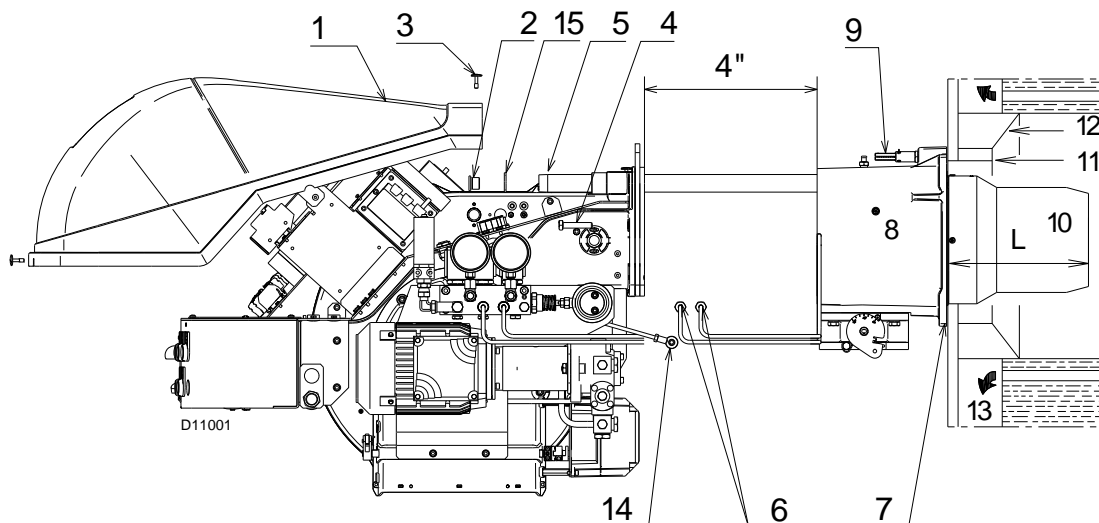
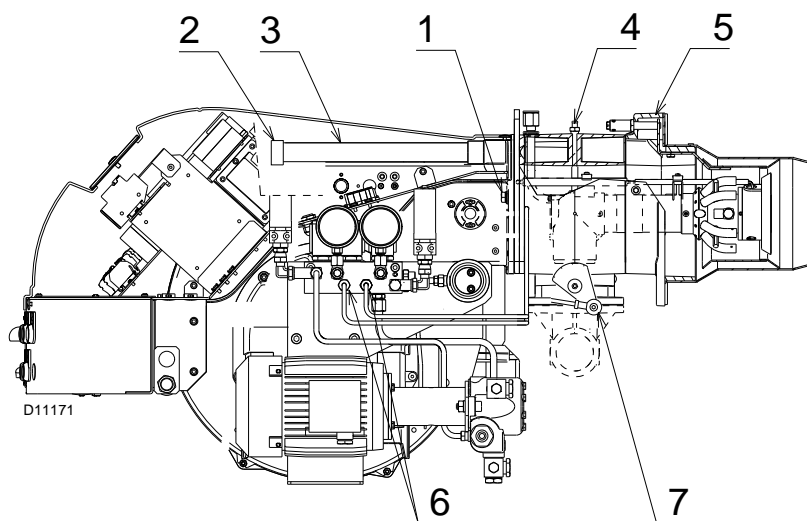

Fig. 12
Fig. 19
This protective insulation must not compromise the extraction of the blast tube. For boilers having a water-cooled front, the insulation 11)-12) (Fig. 12) is not required unless it is required by the boiler manufacturer.
Detach the combustion head from the burner, (Fig. 12):
- Refit the burner to the slide bars 3)(Fig. 19) at approximately 4" from the sleeve 4) - burner positioned as shown in (Fig. 12, page 19) - insert the ignition electrode cables.
- Slide the burner up to the sleeve so that it is positioned as shown in Fig. 19;
- refit screws 2)(Fig. 19) on slide bars 3) including the safety plate 15)(Fig. 12, page 19);
- connect the oil pipes again by screwing on the two connectors 6)(Fig. 12, page 19).